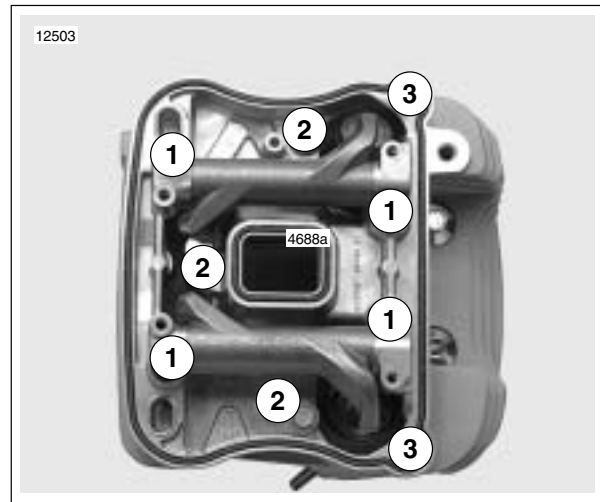

Figure 3-57. Lower Rocker Box Fasteners
6. See Figure 3-57. Remove hardware holding lower rocker cover to cylinder head in the following order.
- a. Remove two screws and washers (1).
- b. Remove three bolts and washers (2).
- c. Loosen the four rocker arm fasteners (3) in 1/4-1/2 turn increments using a cross pattern in order to relieve valve spring pressure on the lower rocker box.
7. See Figure 3-57. Remove lower rocker cover.